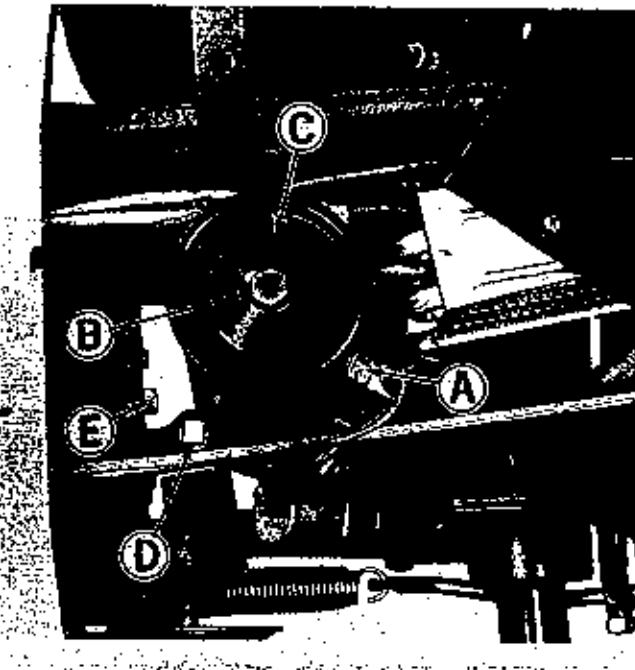

Figure 31. Hydrostatic transmission fluid reservoir and bevel gear housing located under seat deck.
See figure 31. The reservoir for the hydrostatic transmission oil must be kept filled to the bottom threads of check plug (A). To check the reservoir oil level remove plug (A). If oil is not up to the bottom threads of the hole, add Dexron automatic transmission oil. Adding transmission oil will be easier by removing nut (B) and reservoir cover (C). Clean cover (C) carefully before removing it to prevent dirt or foreign materials from contaminating the oil in the reservoir. After filling the reservoir to the level of check plug (A), replace check plug (A), cover (C), and nut (B), and tighten securely.
See figure 31. The check and fill plug for the bevel gear box is located at (D). Remove it to check the oil level. The bevel gear box is properly filled when oil is visible at the bottom of the elbow. If filled to the top of the elbow, oil may be forced out